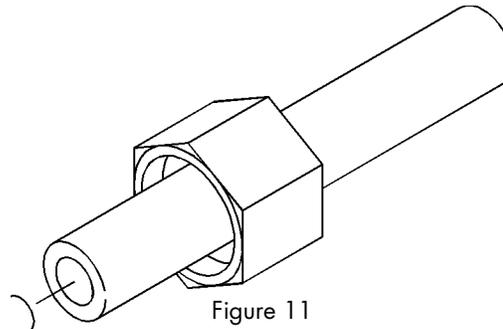

Figure 11
- Slip the white nut over one end of the tubing and press the plastic insert into the end of the tubing (Figure 11). Connect to the brine valve and tighten nut.
- Slip the white nut over one end of the tubing and press the plastic insert into the end of the tubing (Figure 11). Connect to the brine connection on the valve and tighten nut.